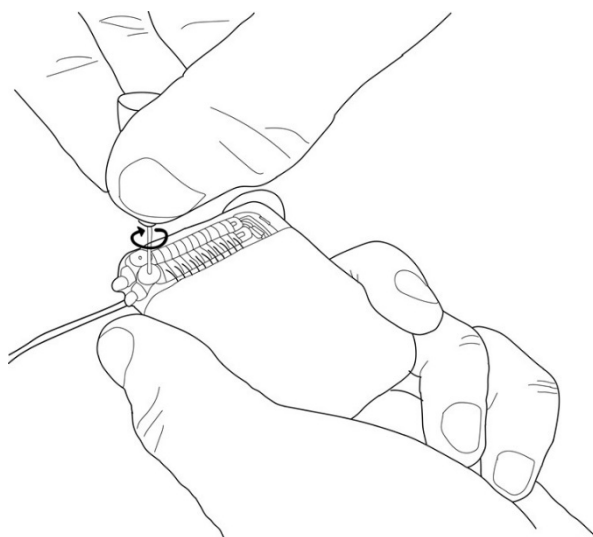

Figure 6.2: Tightening the port screws until you hear a "click".
6. When satisfied that the leads are correctly inserted, use the torque wrench (supplied in the kit) to tighten the setscrew on each port until you hear a “click” (refer to Figure 6.2).